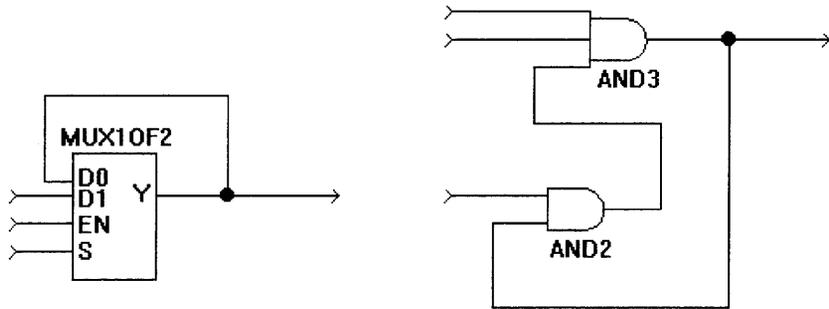

Figure 5-21 Examples of combinational loops (feedback)
- Avoid combinatorial loops. The ATVG tool cannot test combinatorial loops such as those shown in Figure 5-21. Logic driven by or driving these loops may be untestable.
The ATVG tool tries to use all of the flip-flops in the FPGA device for testing purposes. Clocking, setting, or clearing a flip-flop by internal logic renders the flip-flop useless to ATVG, reducing testability. Examples of logic structures that reduce testability in this way are shown in Figure 5-21.